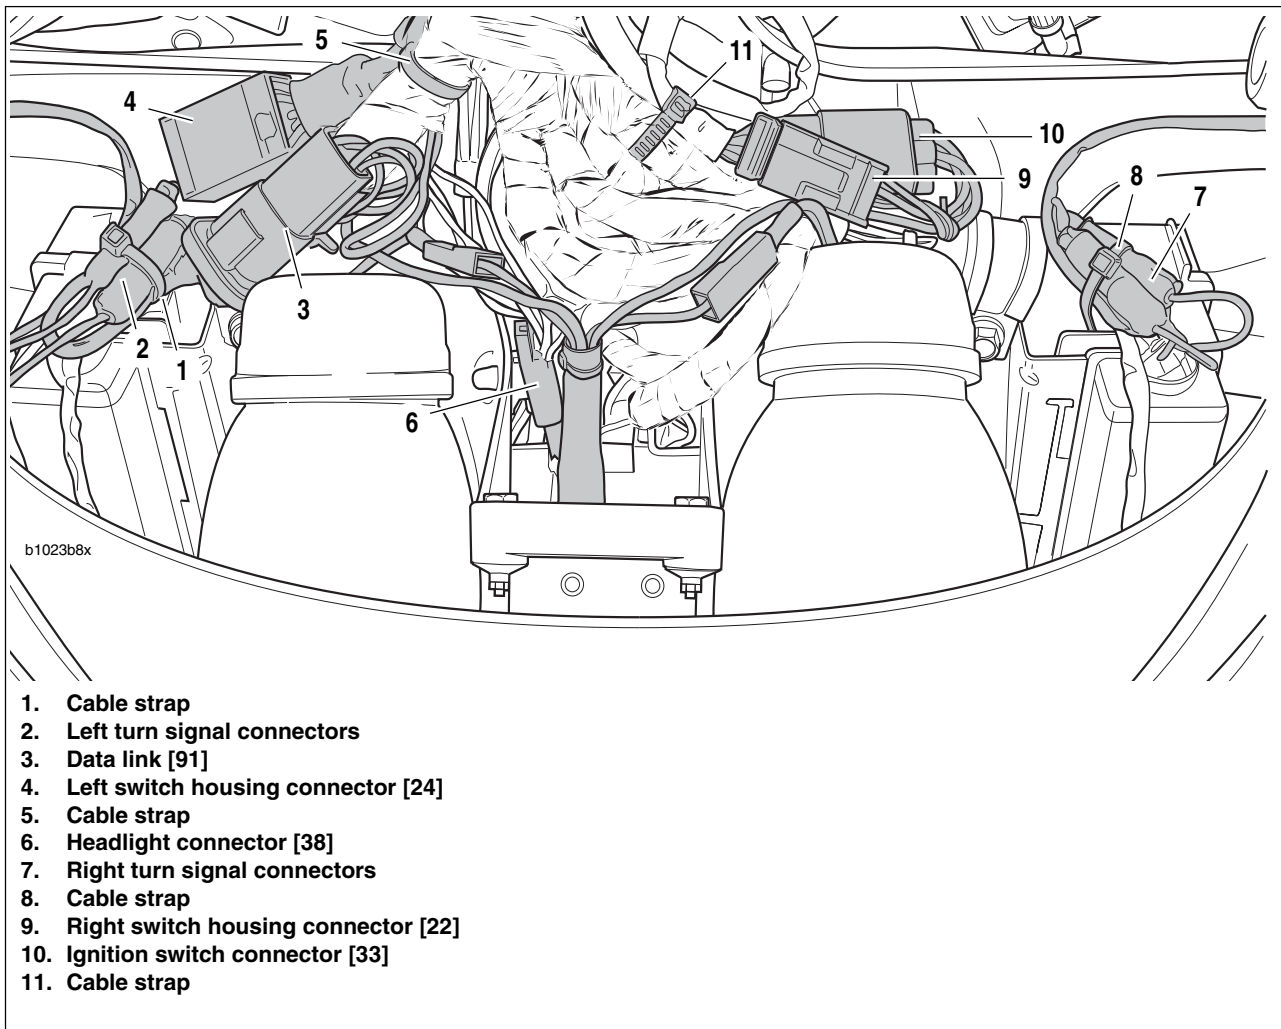

Figure 7-80. Fairing Wiring (viewed from underneath fairing)
17. See Figure 7-80. Verify proper fairing wire routing and cable strap locations.